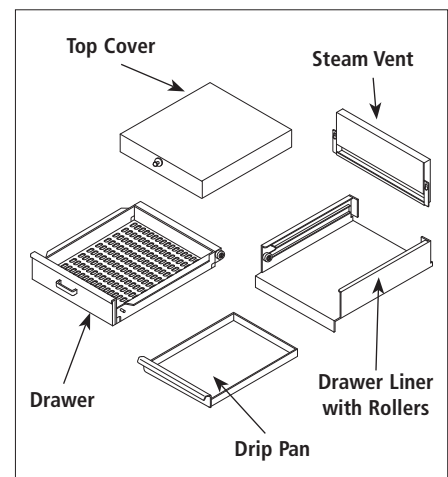

Figure 8. Daily Cleaning-MS-155
**MS-155:** Remove the Drawer, Drawer Liner with Rollers, Drip Pan, Top Cover, and Steam Vent (Figure 8).